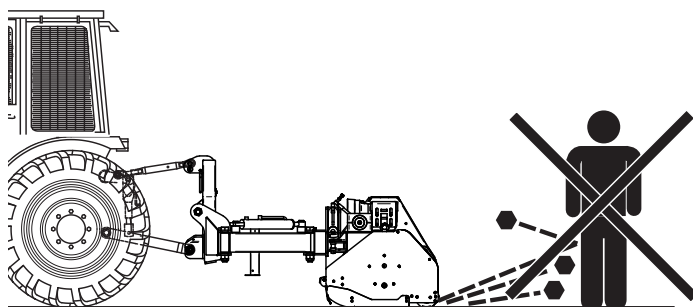

Fig. 24
- make sure that no-one is near the work area of the flail mower (Fig.24);